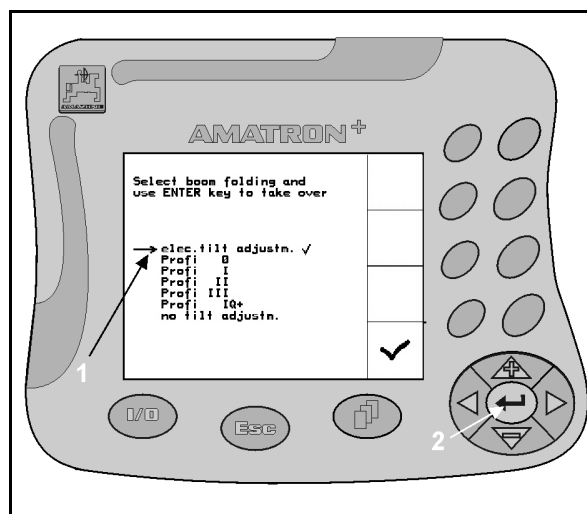

Fig. 16
1. Position the selection arrow (Fig. 16/1) with the aid of the keys  or .
2. Press key  (Fig. 16/2), to accept the input into **AMATRON+**.